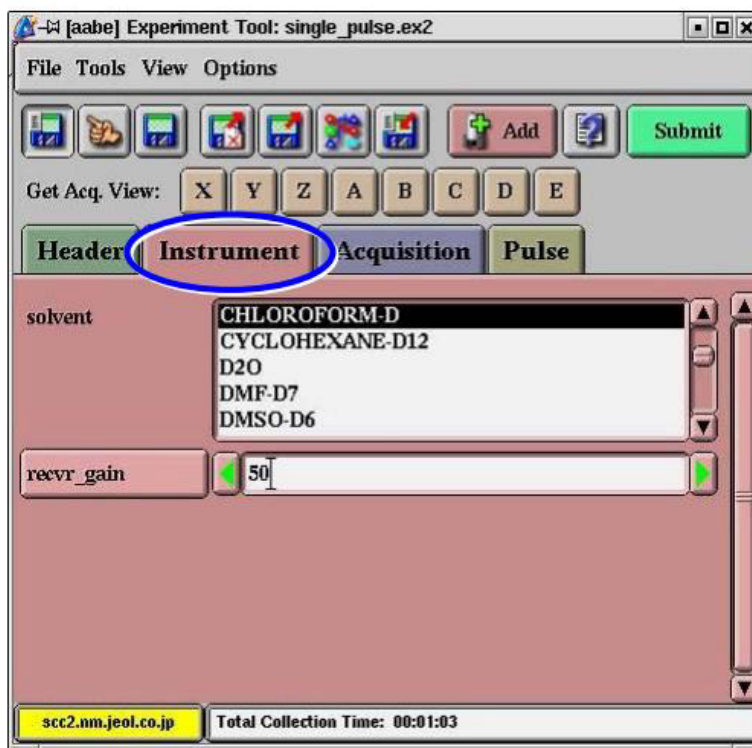

Fig. 3.5: Instrument Section
- viii. Go to Instrument section and check the solvent, refer Fig. 3.5